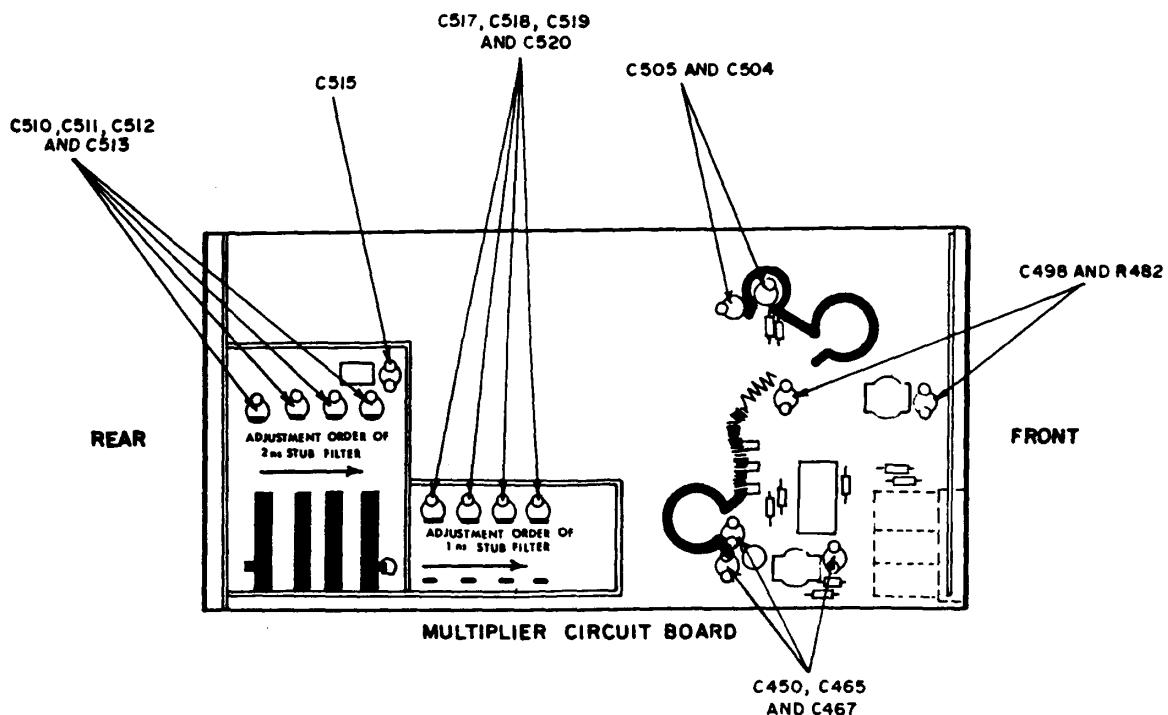

Figure 2. Multiplier circuit board.
- (1) Adjust C450, C465, and C467 (fig. 2) for maximum measuring receiver indication (R).
- (2) Adjust C498 and R482 (fig. 2) for maximum measuring receiver indication (R).
- (3) Adjust C504 and C505 (fig. 2) for maximum measuring receiver indication (R).
- (4) Adjust C510, C511, C512, and C513 (fig. 2) (order of adjustments as shown by arrow) for maximum measuring receiver indication (R).
- (5) Disconnect sensor module from TI **MARKER OUT** and connect to TI **1nS ONLY**.
- (6) Press **1nS** pushbutton.
- (7) Set measuring receiver to measure volts at 1000 MHz.
- (8) Adjust C517, C518, C519, and C520 (fig. 2) (order of adjustment as shown by arrow) for maximum measuring receiver indication (R).
- (9) Adjust C515 (fig. 2) for a measuring receiver indication > 70.7 mV (R).
- (10) Disconnect sensor module from TI **1nS ONLY** and connect to TI **MARKER OUT**.
- (11) Press **2nS** pushbutton.
- (12) Set measuring receiver to measure volts at 500 MHz.
- (13) Adjust C515 (fig. 2) for a measuring receiver indication > 265.1 mV (R).
- (14) 1ns and 2ns adjustments interact; repeat (2) through (13) above as necessary.